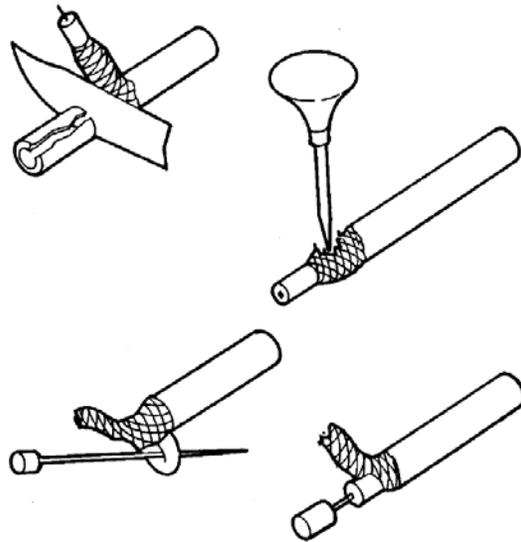

Figure 3-1. Preparation of Shielded Cable
*—Where a shielded cable is required, prepare the cable as instructed below and as shown in Figure 3-1. Cut the required length of coaxial cable. (A) Strip off outer insulation from both ends exposing the braided shield. Do not cut the braid. (B) Using a sharp pointed tool (awl) carefully make an opening in the braid and (C) pull inner conductor out of the braid. Twist braid to prevent it from fraying, then (D) remove 1/4" of insulation from the inner conductor. Connect the longer inner lead to the connector pin and the braid to the chassis ground. Ground the braid at the control unit only. Do not attempt to tin (solder) the braided shield. A heat sink of some type (alligator clip, etc.) must be used to prevent heat from traveling to the insulation of the inner conductor and melting it.